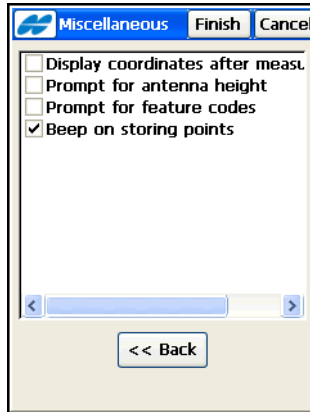

Figure 3-50. Miscellaneous
- **Next** – opens the *Miscellaneous* screen (Figure 3-50 on page 3-50).
The *Miscellaneous* screen (Figure 3-50) is used to customize the user interface using the following options: